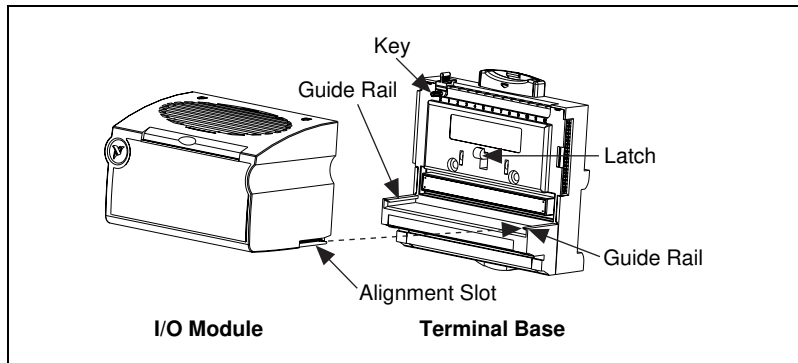

Figure 2-9. Mounting I/O Module to Terminal Base
1. Position the first module with its alignment slots aligned with the guide rails on the terminal base, as shown in Figure 2-9.